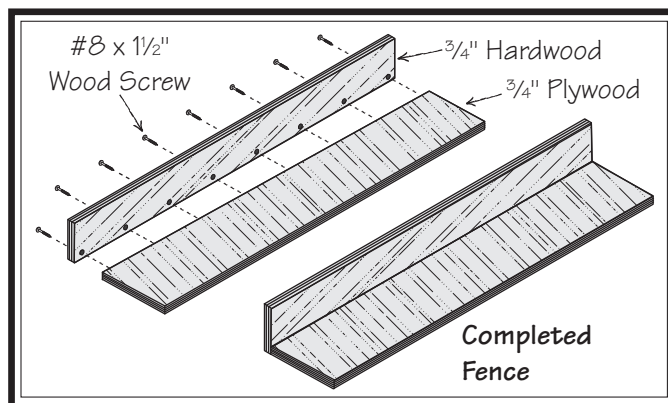

Figure 96. Location of pilot holes.
2. Pre-drill and countersink eight pilot holes $\frac{3}{8}$ " from bottom of 3" wide board, then secure boards together with eight #8 x $1\frac{1}{2}$ " wood screws, as shown in **Figure 96**.